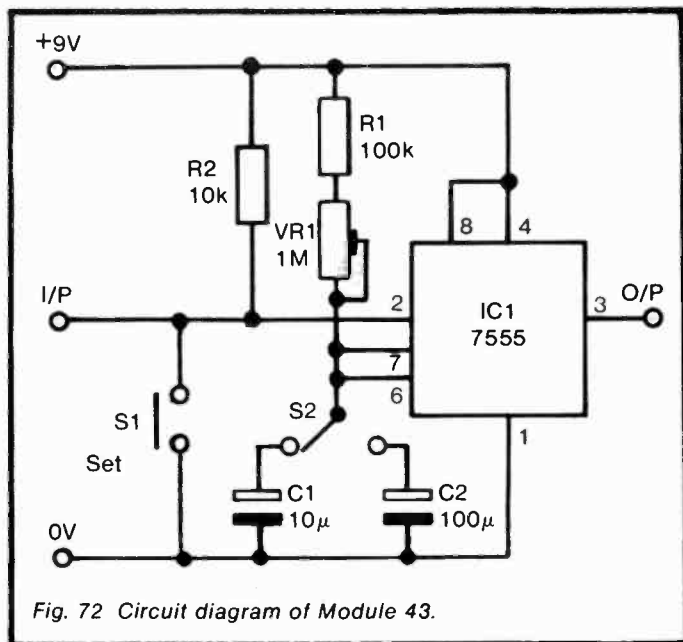

Fig. 72 Circuit diagram of Module 43.
*Circuit diagram:* see Figure 72.